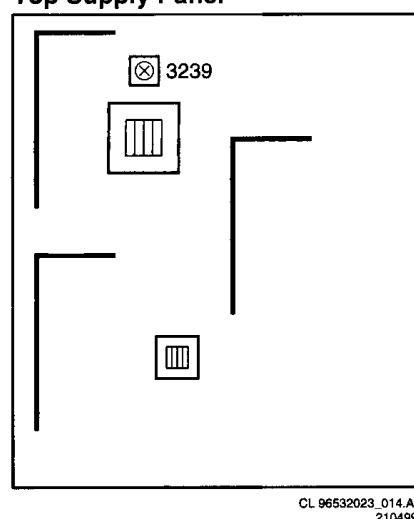

Figure 8-27
- Using potentiometer R3239 (diagram B) adjust the Vbat supply voltage to +141V $\pm$ 0V5. (see Fig. 8-27)
8.3 Alignments on the Large Signal Panel (A)